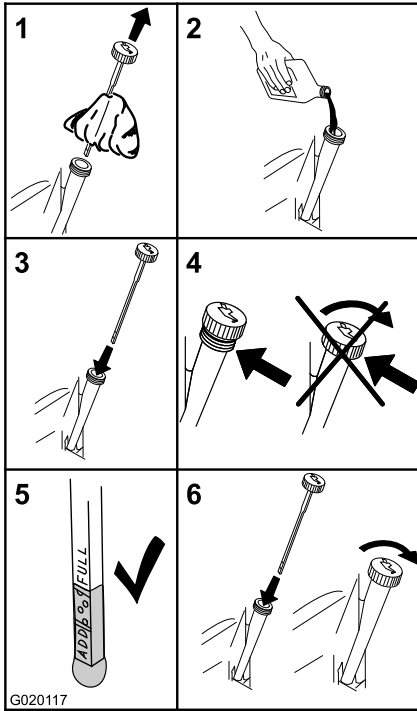

Figure 32
- Slowly pour approximately 80% of the specified oil into the filler tube and slowly add the additional oil to bring it to the **Full** mark (Figure 32).